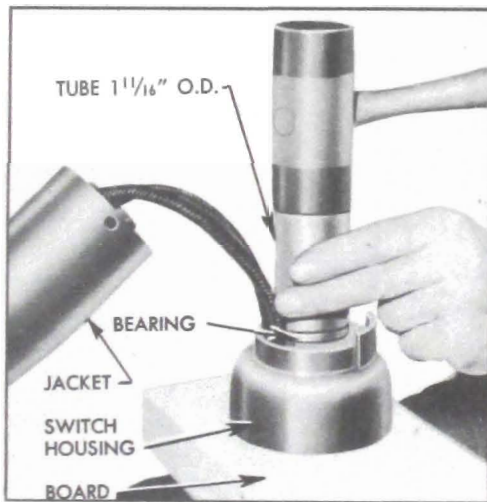

Figure 7-10—Installing Control Shaft Bearing
5. Support the signal switch housing on a board held on the knees while installing the spring washer, plain washer, and thrust washer in the order named. Drive the new control shaft bearing into housing, using a square-ended heavy-walled tube $1\frac{1}{16}$ " outside diameter. See figure 7-10.